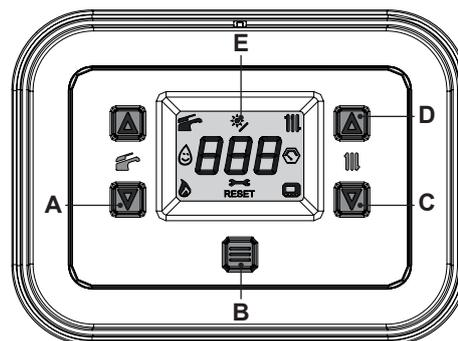
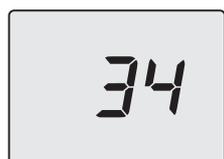

Figure 9.9
Figure 9.12
time the 2 keys "A" and "C" (Figure 9.9) and hold in for 5 second until the display shows Figure 9.10.
- 5 Scroll the various menus using keys "A" or "C" (Figure 9.9) until **CAF** appears on the LCD display (Figure 9.11).
- 6 Press the key "B" (Figure 9.9) until the **StF** (Start Full), alternating with **34** (calibration value), appears on the LCD display (Figure 9.12).
- press the "A" and "C" keys simultaneously for 5 seconds (Figure 9.9) (return to previous level).